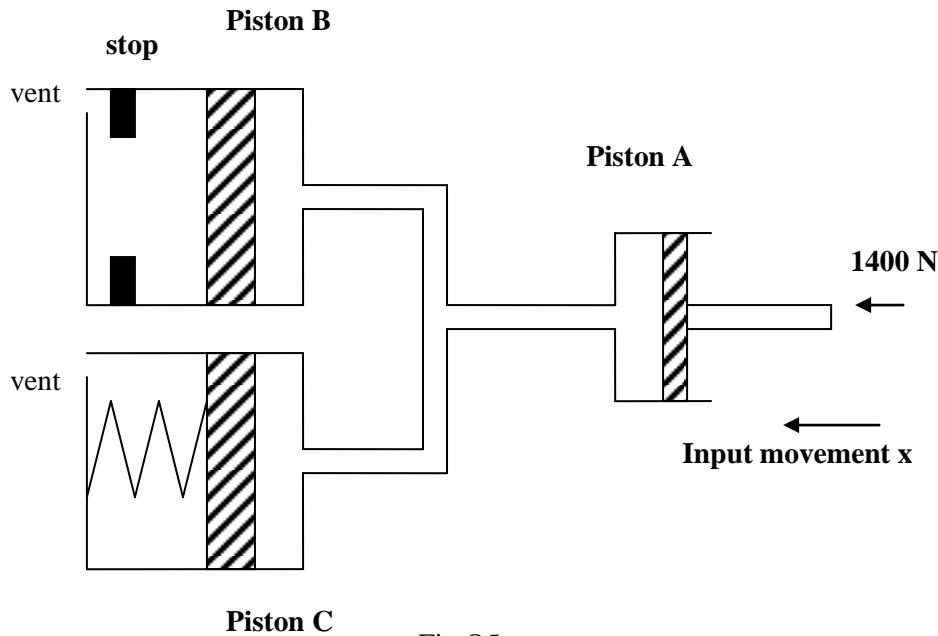

Fig Q5
5. A section of a hydraulic control system is shown in Fig Q5. The system is filled with an incompressible fluid. Movement of the input piston 'A' causes the output pistons 'B' and 'C' to move. Piston C moves against a spring of stiffness 50 kN/m. Piston B has no resistance to movement but reaches a rigid stop after 40 mm travel. Piston A has a diameter of 60 mm and pistons B and C are each 84 mm diameter.